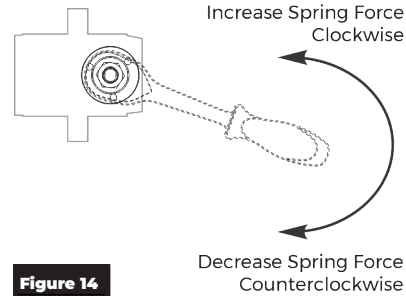

Figure 14
- Using 1/2" socket wrench with 3/4" deep well socket, turn nut in end of closer body tube to desired force. (Figure 14)